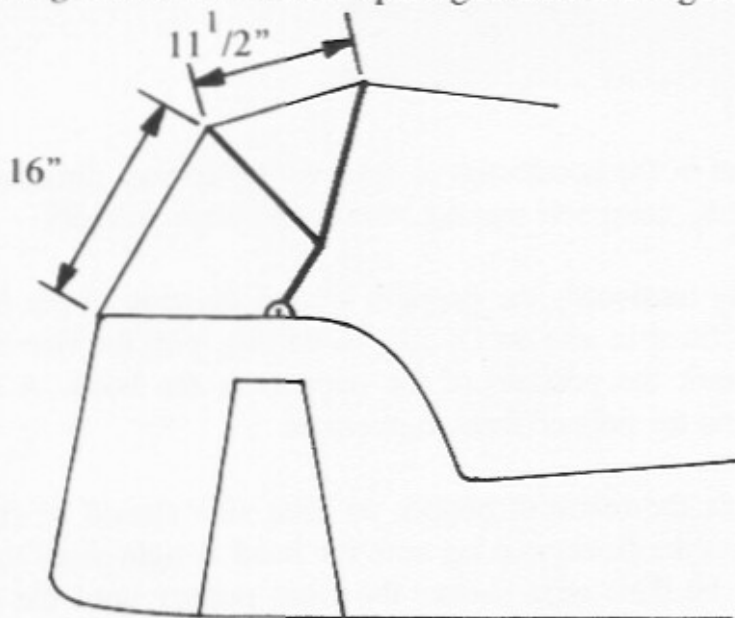

Figure 13.1 Hoodstick Spacing
1.3 Remove the inner hoodstick from the hoodstick assembly and feed the hoodstraps over the inner and outer hoodsticks. Adjust so that they take up the positions as shown in the diagram. Since the exact positioning will depend upon the hood itself when fitted, temporarily secure the inner hoodstick to the rear of the car with string to maintain the 16" spacing as shown in figure 13.1.